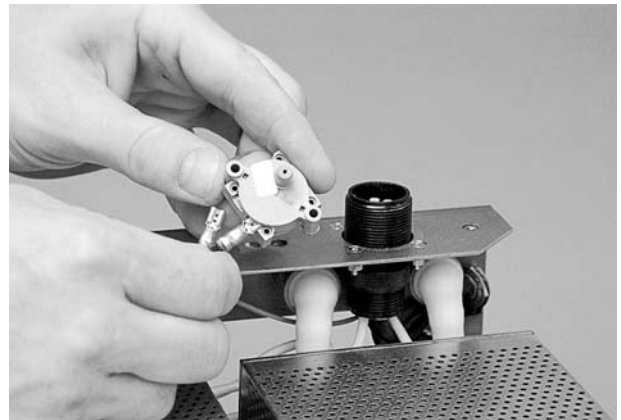

Figure 4-14 Pressure Switch Wires
4. See Figure 4-14. Disconnect the the two wires and connect them to the new pressure switch in the same orientation.